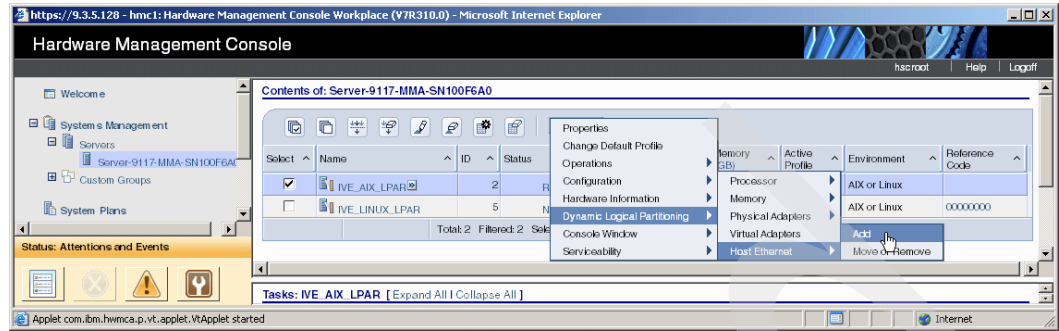

Figure 4-7 First step to add a logical port
1. In your managed server panel, select the **LPAR** check box and use the **Task** button, as shown in Figure 4-7.